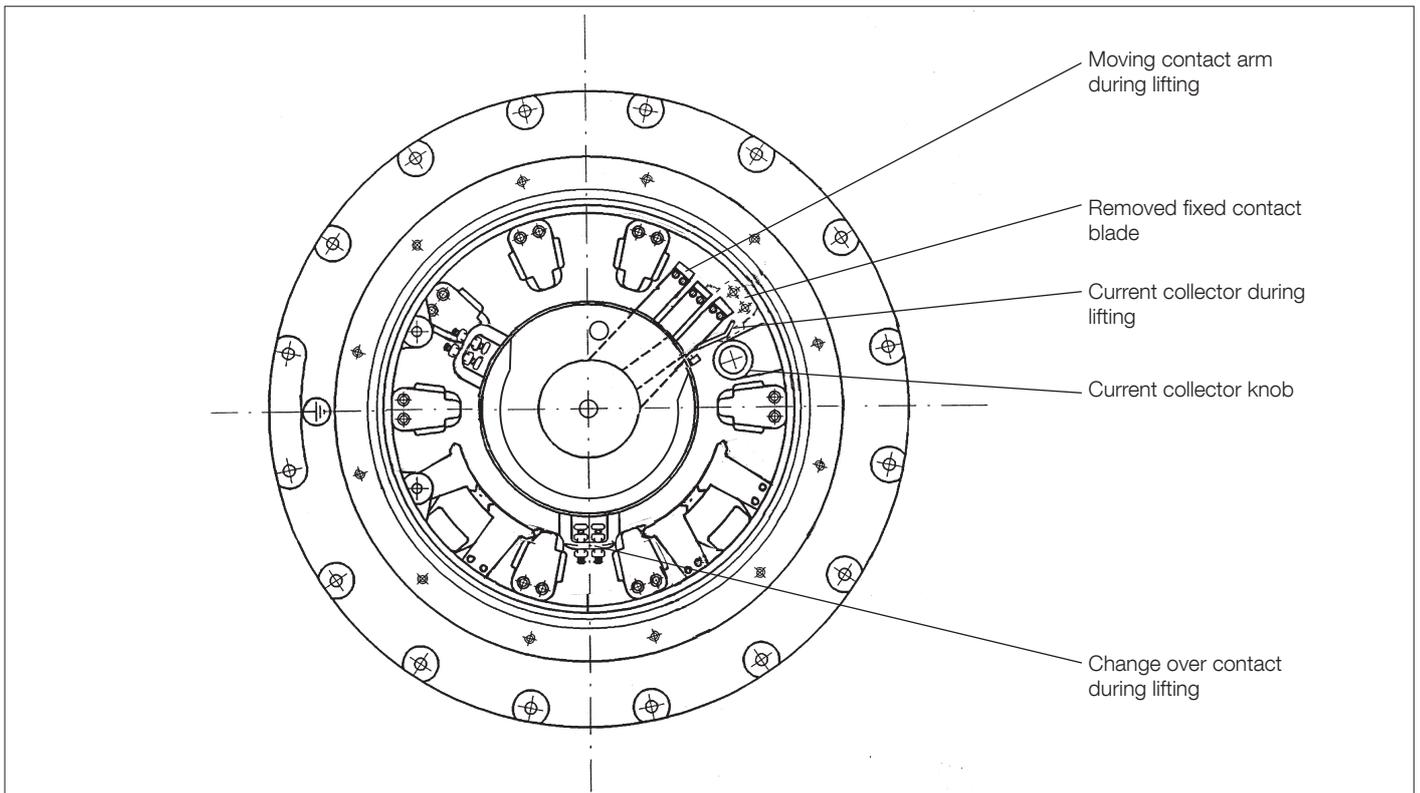

Fig. 8. UBB in position for lifting of the switch insert.
2. Twist the shaft so both the moving contacts and the current collectors are in the position for the removed fixed contact blades, see Fig. 8.
See Fig. 8.